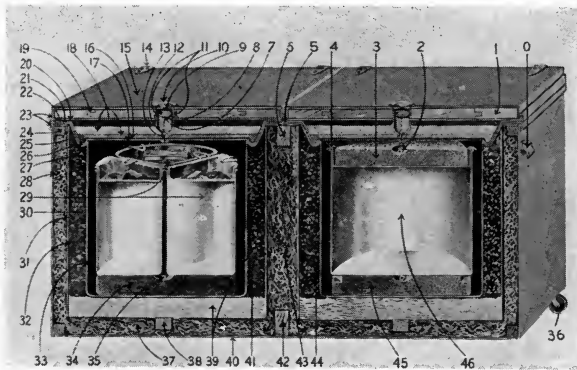

FIG. 22. Section of fireless cooker.
47. The Fireless Cooker. The fireless cooker is a box or can having a diameter somewhat larger than that of the largest vessel to be placed in it. The space left around the vessel is packed with some insulating material to keep in the heat (Fig. 22). In home-made cookers, this material may be hay, feathers, pillows, shredded newspapers, wood shavings or sawdust. In commercially-made cookers, it is felt, asbestos wool, cork, or other insulating material. Because most insulating material will not stay in place and readily absorbs moisture and odors, some kind of lining is put between it and the vessel holding the food. This makes a little nest, into which the vessel fits. In the better made cookers, this lining is made of metal, and the seams are water-tight.
Since the food has to be shut in a fireless cooker to keep in the heat, fireless cookery is a method of steaming of food. For this reason, it has a slightly different flavor from food baked in the oven, much as fried food differs from roasted food. Hot stones (Fig. 22) are put in most fireless cookers. The heat from these brown the food and give to the otherwise steamed food a flavor similar to that developed in baking, roasting and frying.